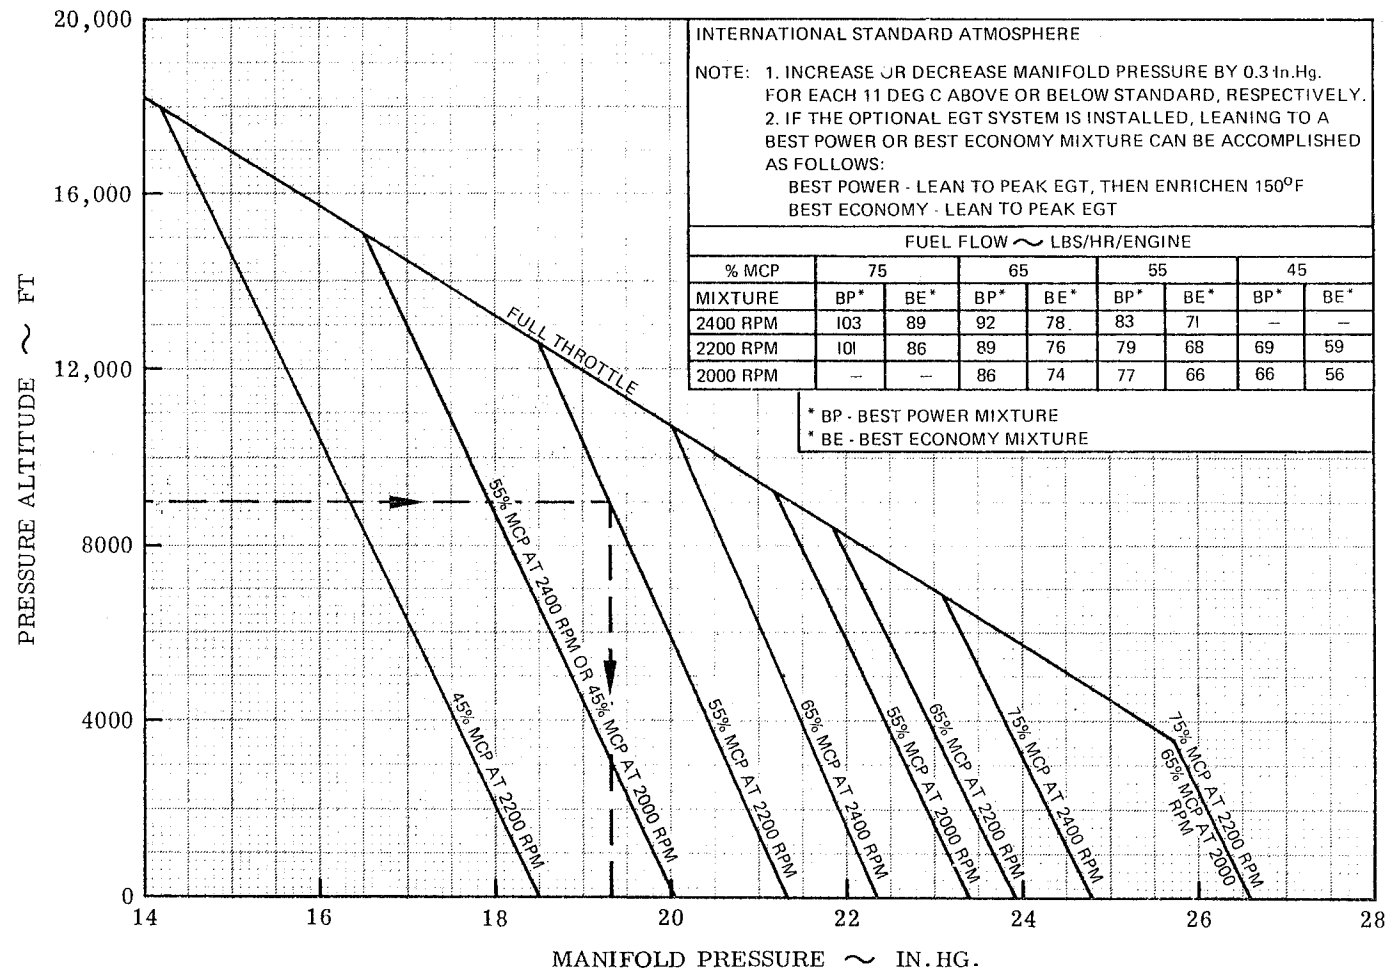

Figure 6.
The level flight cruise performance for standard day conditions is summarized in Figure 6. Fuel flow and manifold pressure are presented as a function of percent MCP, pressure altitude, engine RPM and mixture.
Fuel Flow, Fig. 6	79 LBS/HR/ENGINE
- NOTES: 1. See Figure 6. for Cruise Power Setting Chart.